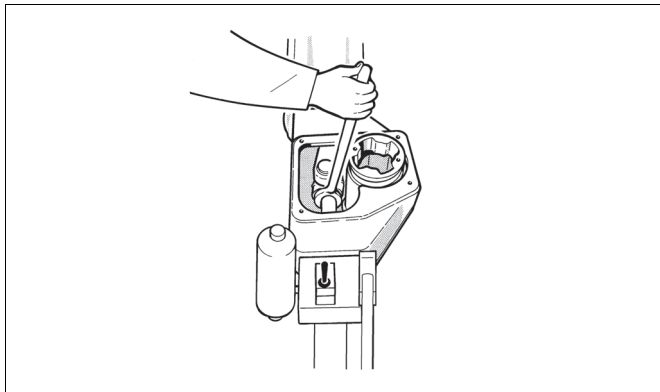
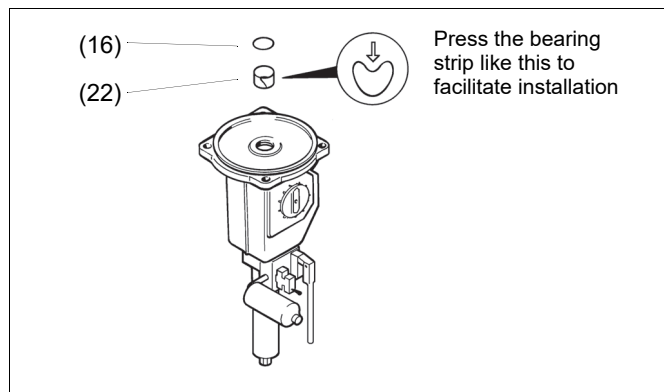

Fig. 16 Removing hydraulic cylinder piston rod
Fig. 17 Mounting the piston rod bearing and seal
- Remove housing cover (2).
- Turn hydraulic cylinder piston rod (75) off bearing unit and detach cylinder mounting screws (31) from cylinder base (6) side. If the piston (9) turns along with the piston rod (75), remove cylinder end (44) and prevent turning with the piston attachment screw (28), see Fig. 16.
- Remove the O-ring (16) and the bearing (22). Clean the seal space.
- Lubricate the seal space and the new O-ring with Unisilikon L250L or Molykote III. Install the new bearing and O-ring. See Fig. 17.
- Place the O-ring (18) under the piston seals.
- Turn open the hydraulic cylinder piston rod (75) holding the bearing unit (5), see Fig. 16.